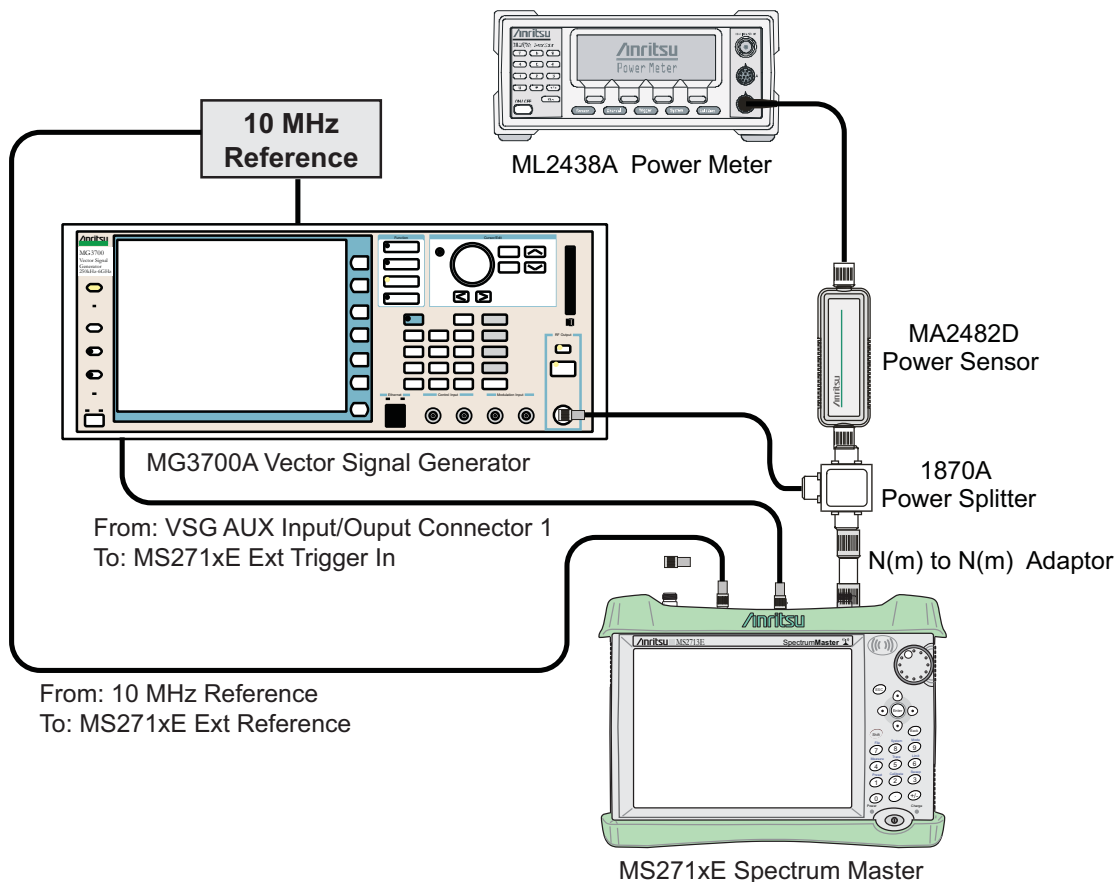

Figure 4-7. CDMA Signal Analyzer Option Verification
2. Connect the equipment as shown in Figure 4-7.
4. Set the MS271xE mode to CDMA Signal Analyzer. Press **Shift** and press **Preset** (1) to preset the MS271xE.
1. Confirm that the equipment settings are unchanged from the previous test. Refer to Figure 4-7 on page 4-34.